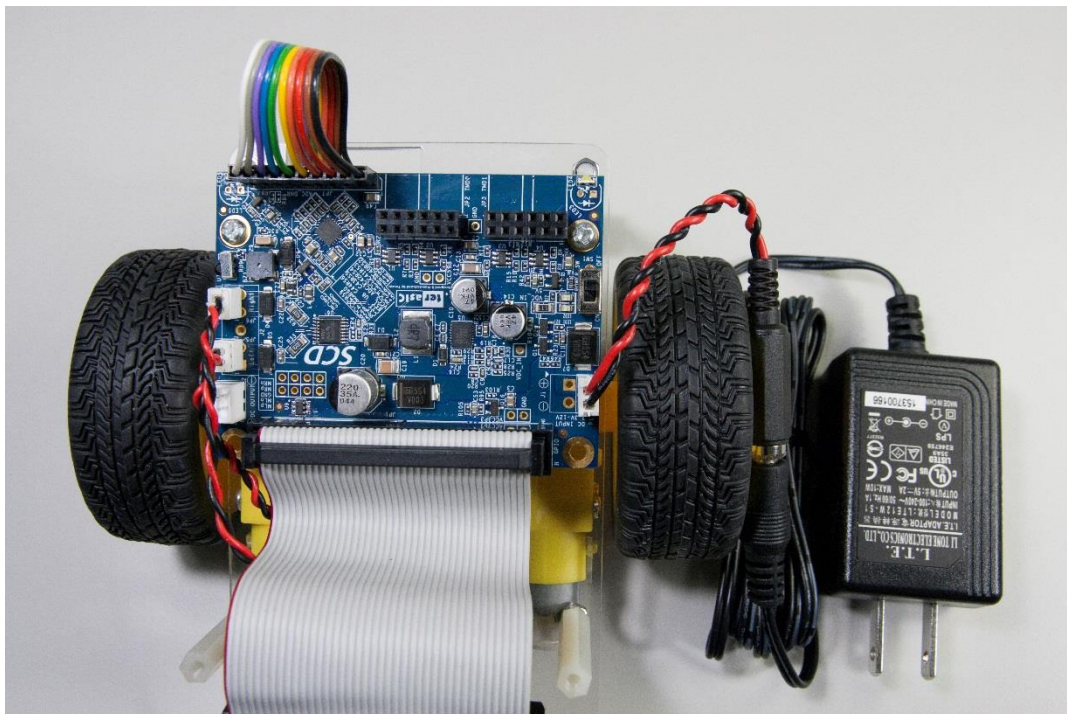

Figure 2-5 Complete connection diagram
3. Insert the other end of the DC Power cable connector into the J1 connector (battery cable) on the SCD. The completed connection is shown in **Figure 2-5**.